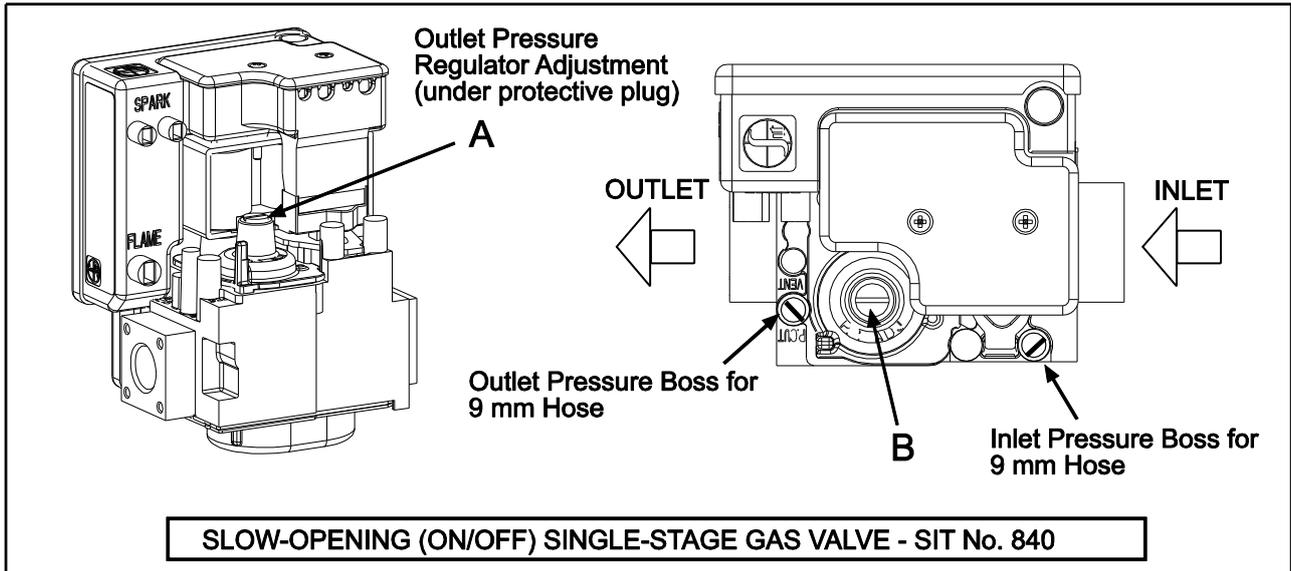

Fig. 29a
- Turn the pressure test screw in the center of the gas valve **INLET** pressure test boss (see Fig. 29a below) not more than one turn **counterclockwise**. Connect the free end of the manometer tube (permanently connected to the manometer test nipple inside the side panel of the control box) to the **INLET** test boss (See Fig. 29a). Close the control box door and secure with the two toggle latches.
- Turn the pressure test screw in the center of the gas valve **OUTLET** pressure test boss (see Fig. 29a below) not more than one turn **counterclockwise**. Connect the free end of the manometer tube (permanently connected to the manometer test nipple inside the side panel of the control box) to the **OUTLET** test boss (See Fig. 29a). Close the control box door and secure with the two toggle latches.
- Disconnect pressure regulator connection "VENT" (if used). Remove the protective plug A (see Fig. 29a below). Turn regulator adjustment screw B **clockwise**  to increase pressure, or **counterclockwise**  to decrease pressure. After setting put back the protective plug.